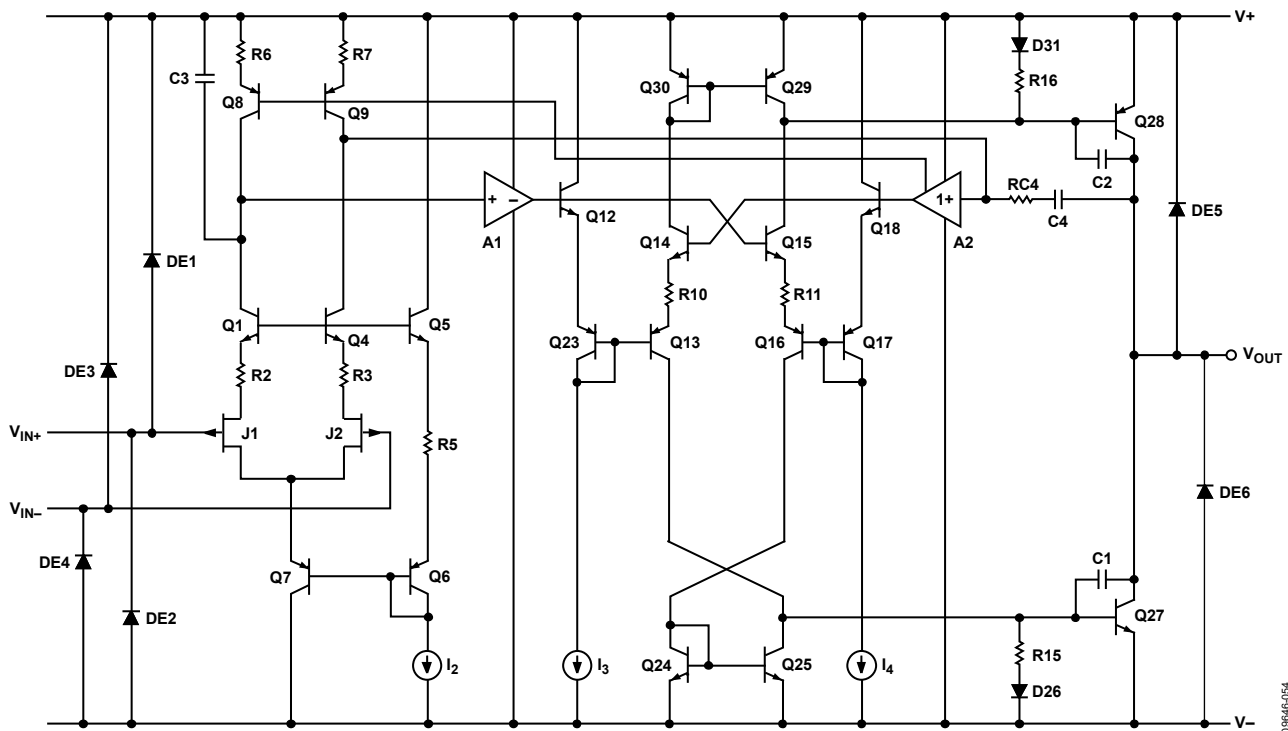

Figure 57. Simplified Schematic
The ADA4610-1/ADA4610-2/ADA4610-4 are manufactured using the Analog Devices, Inc., *iPolar*® process, a 36 V dielectrically isolated (DI) process with P-channel JFET technology. The unique architecture of the ADA4610-1/ADA4610-2/ADA4610-4 makes it possible to combine high precision and high speed characteristics into a high voltage, low power op amp. A simplified schematic for the ADA4610-1/ADA4610-2/ADA4610-4 is shown in Figure 57. The JFET input stage architecture offers advantages of low input bias current, high bandwidth, high gain, low noise, and no phase reversal when the applied input signal exceeds the common-mode voltage range. The output stage is rail-to-rail with high drive characteristics and low dropout voltage for both sinking and sourcing currents.